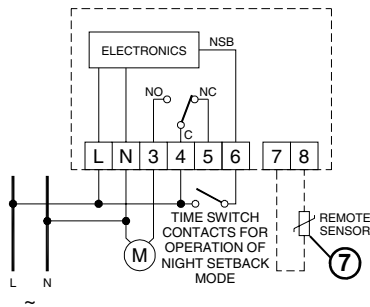
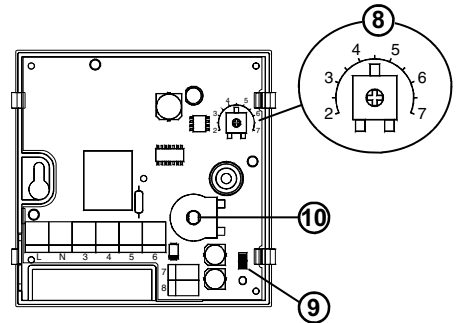

Fig. 5
Fig. 6
Through the internal temperature adjustment trimmer, see (10) Fig. 6, the user can set the temperature around which the regulation will take place, as explained above.
- 4.** Make the wiring connections to the backplate as shown in Fig. 5 including any remote sensor connections to terminals 6 and 7.
Terminal **6** Fig. 5 energises the "night setback" mode. The night setback temperature is adjustable from 2 °C to 7°C by means of the internal trimmer (**8**) Fig. 6. The trimmer is factory set to 4.5°C.
When using the remote sensor option with the thermostat, connect the sensor as shown in Fig. 5 (**7**) and remove the jumper on the bottom right hand corner of the backplate - see (**9**) Fig. 6. Cased remote sensors must be connected in cable of at least 1.5mm2 cross sectional area and not greater than 25m in length. Do not put mains cables and sensor cables next to one another.